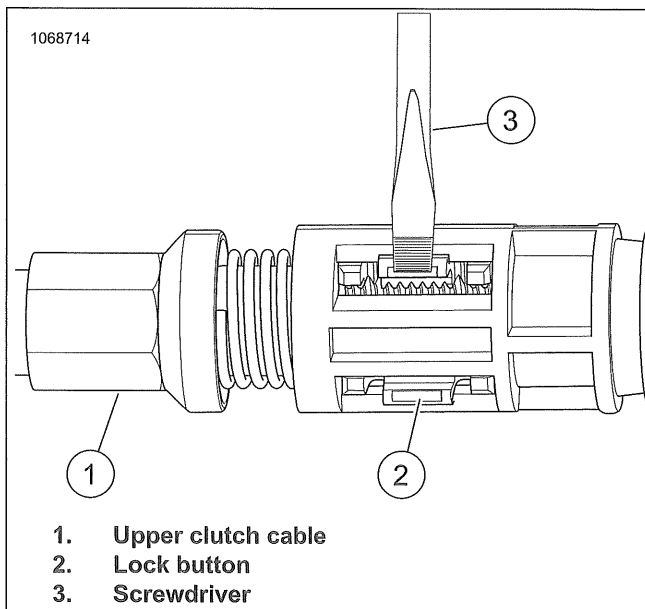
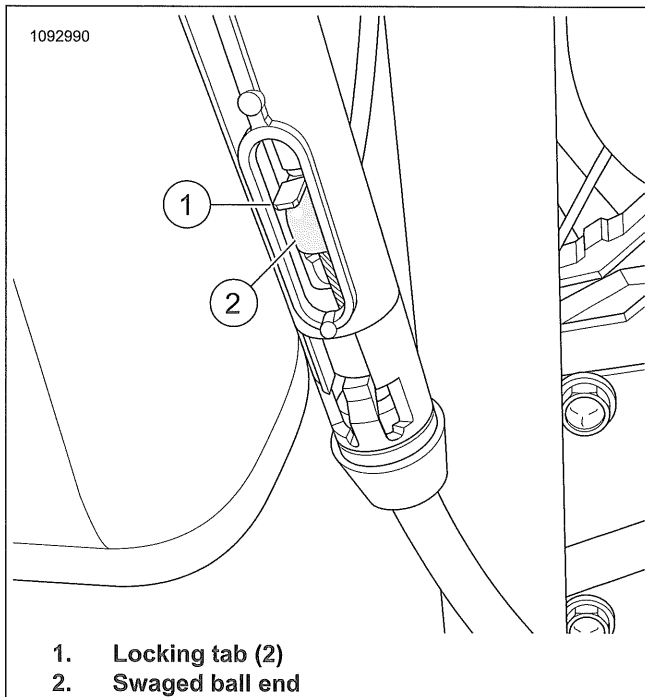

Figure 3-95. Compressed Upper Clutch Cable
Figure 3-96. Retaining Clips
3. See Figure 3-95. Unlock upper clutch cable (1).
- a. Place flat side of screwdriver (3) on tab of lock button (2).
5. See Figure 3-96. Lift locking tab (1) from swaged ball end (2).
- 3. See Figure 3-96. Secure locking tab (1) swaged ball end (2).
5. See Figure 3-95. Disengage lock button (2) allowing upper clutch cable spring to set free-play at clutch lever.